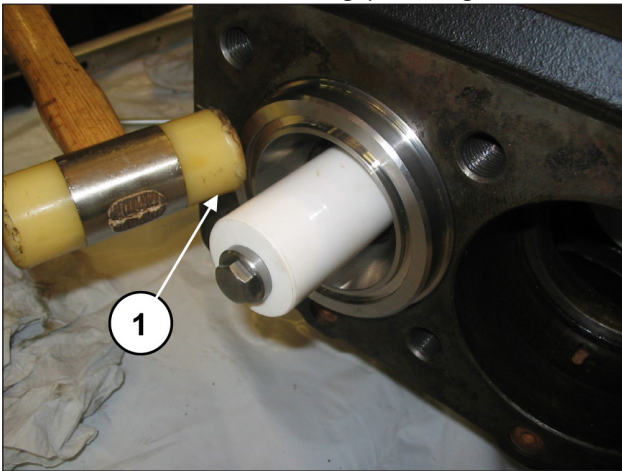

Fig. 141
Ensure that the liner-support block is positioned correctly down to the bottom of the housing (pos. ①, Fig. 141).